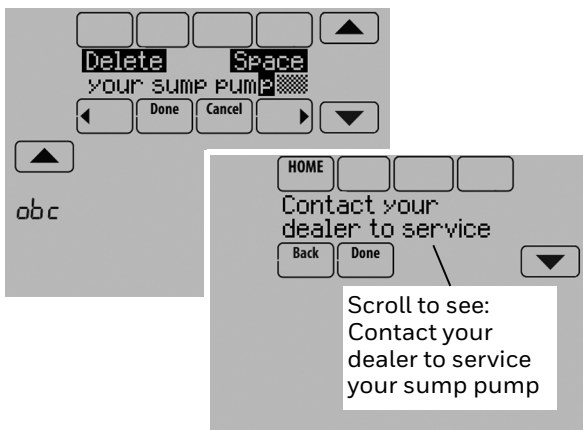

Fig. 162.
- Type the custom alert message and press Done. The custom alert message appears after selecting the alert and pressing "View More Info". See Fig. 162. You can edit or confirm the alert message after you enter it.